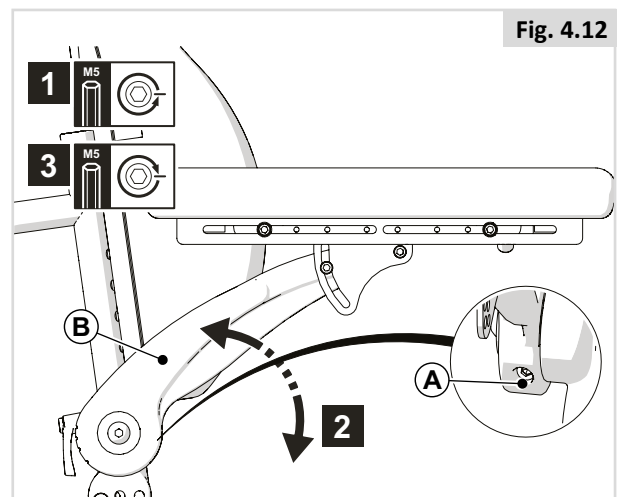

Fig. 4.12
#### PART 1 (Fig. 4.12)
In order to reach the rear screw in lower armrest heights, loosen screws (A) of Fig 4.12 and adjust the angle of the pad first.